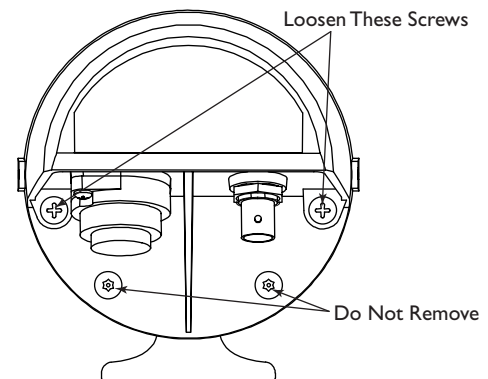

FIGURE 1 Loosening the Captive Screws
1. Loosen the top two screws on the rear of the housing. These screws are captive and will not come out all the way. Do not remove the bottom two screws. See FIGURE 1.